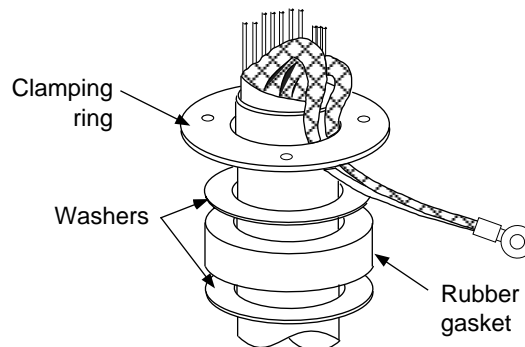

Figure 2-3 Passing cable shields between cable and clamping ring
8. Referring to Figure 2-3, pass the outer and inner shields between the signal cable and the clamping ring. Fasten the cable gland.